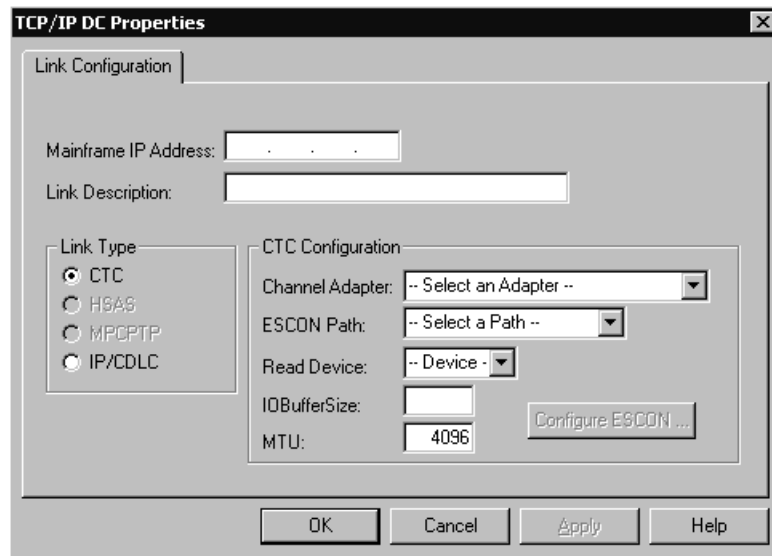

Figure 6-5. TCP/IP Direct Connect Properties
3. The TCP/IP Direct Connect Properties dialog will display (Figure 6-5).